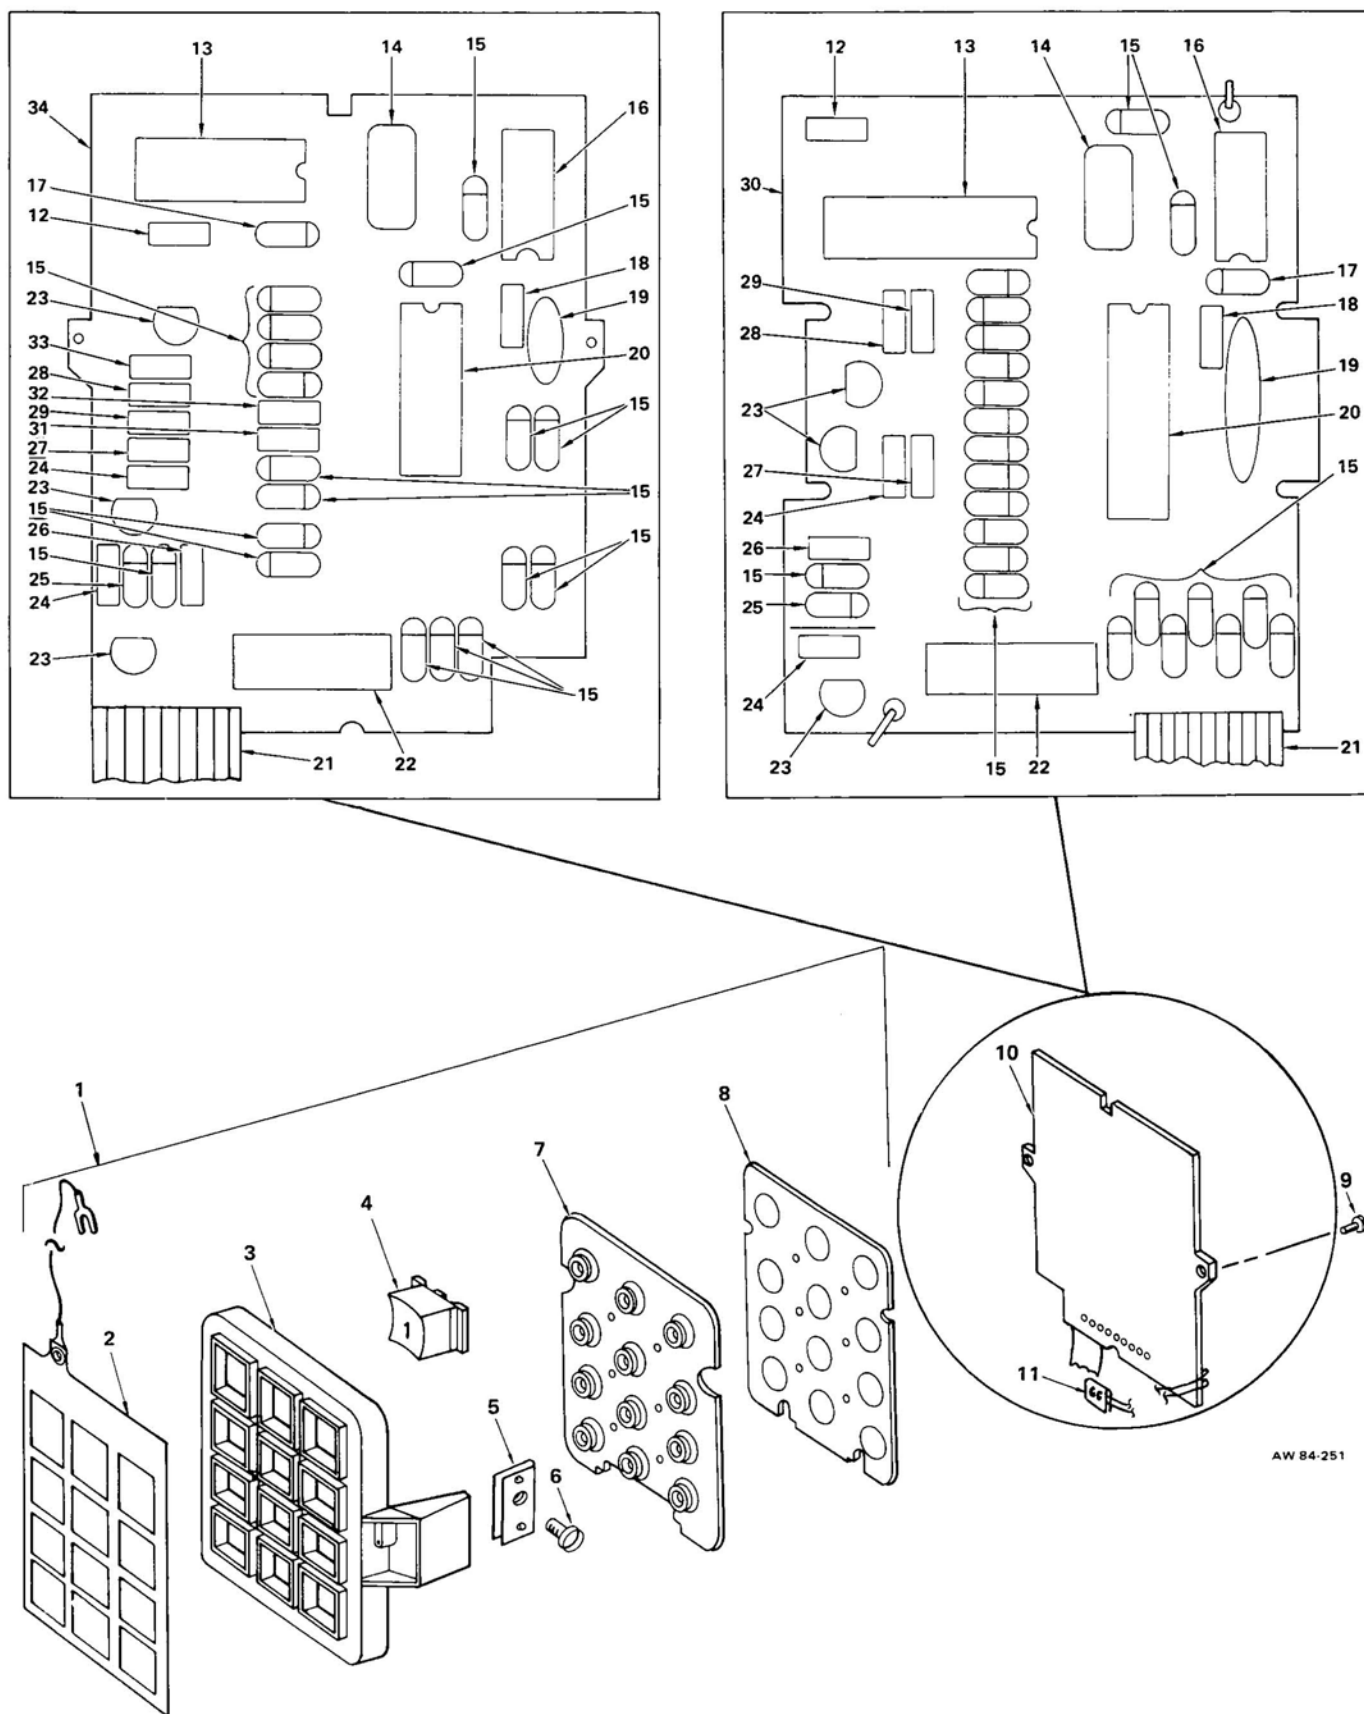

Figure 2: Model 186087 Auto Dialer, Exploded View
2.02 The Model 186087 auto dialer uses either a 12-pushbutton or 13-pushbutton keypad. (See Figure 2.) Both keypads consist of a cover plate, 12 standard keys (0-9, *, and #), a silicone switchplate, and a contact PCB assembly. The 13-pushbutton keypad has an additional AUTO DIAL pushbutton, while the 12-pushbutton keypad is used with an externally-mounted AUTO DIAL pushbutton.